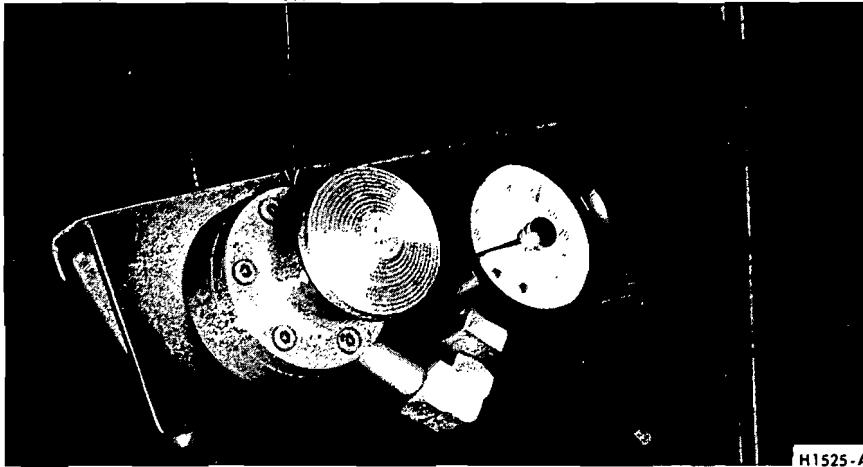

FIG. 2—Brake Pedal Effort Gauge Installed
1. Install a Brake Pedal Effort Gauge on the brake pedal pad (Fig. 2).